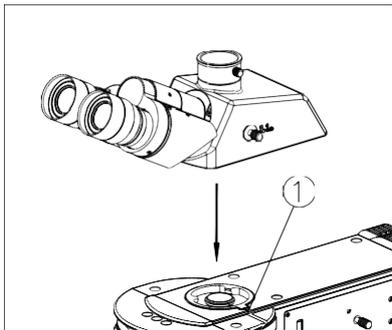

Fig. 10
- (1) Loosen the lock-screw ① completely on the fluorescence illuminator. (See Fig. 10)
- (2) From a little right position, insert the dovetail interface on the bottom of head into the hole of middle head with a little left inclined. Keep the two eyepiece tubes forward, and then screw down the lock screw ①.